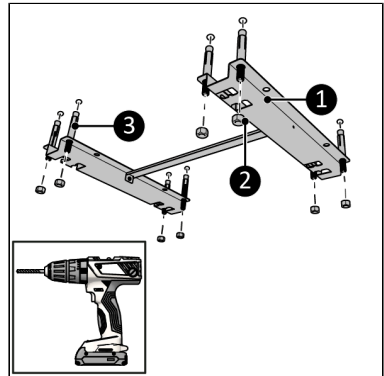

Figure 38.
4. Place the bracket against the ceiling and mark the eight holes (Figure 38).
6. Place the anchor bolts (Figure 38, pos. 3).
7. Tighten the bracket (Figure 38, pos. 1) to the ceiling with the eight nuts (Figure 38, pos. 2).